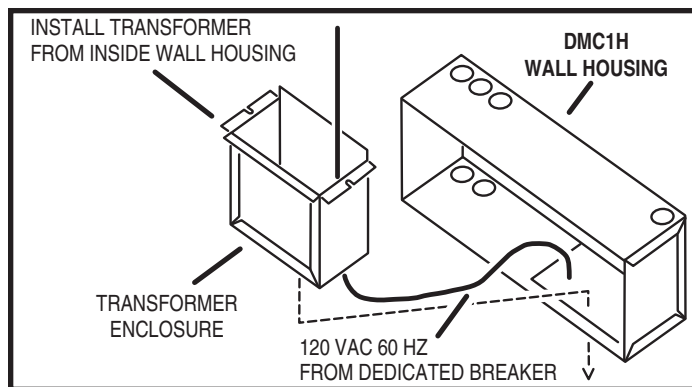

Figure 4. DMC1H Transformer Enclosure Installation
**ALL AC ELECTRICAL CONNECTIONS TO THE POWER SOURCE AND THE TRANSFORMER(S) MUST BE MADE BY A LICENSED ELECTRICIAN AND MUST OBSERVE ALL NATIONAL AND LOCAL ELECTRICAL CODES.**
2. Slide the transformer enclosure(s) down into the rectangular transformer mounting knockout(s) on the bottom of the wall housing (see Figure 4).